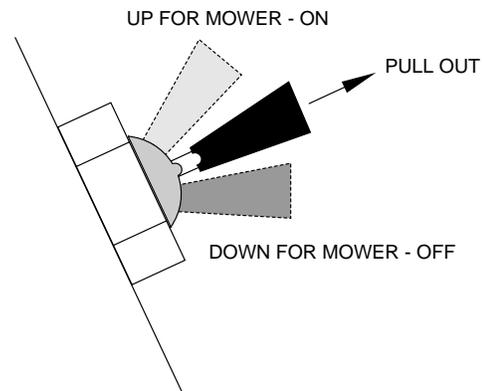

Figure 4-6 Cutter Engage Switch
2. Engage the deck drive by pulling out on the switch lever (Figure 4-6) then pushing the switch lever forward to the engage position.